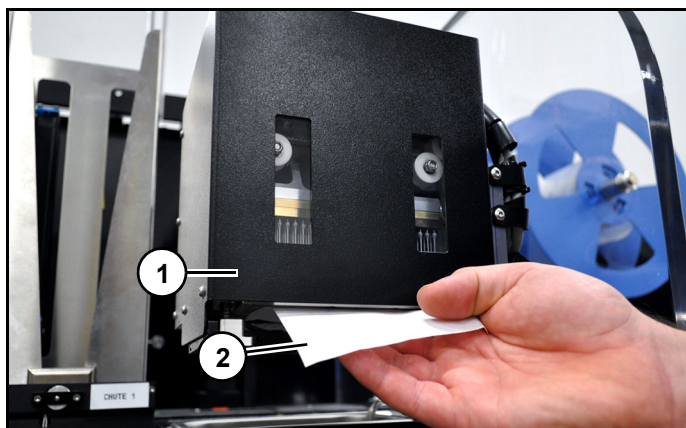

Figure 21
3. Dab seal, located on bottom of head (1), with a lint-free cloth moistened with alcohol (2). (*Figure 21*)